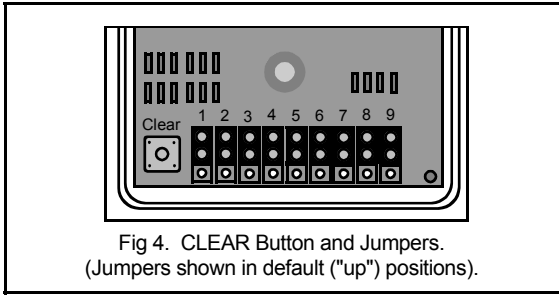

Fig 4. CLEAR Button and Jumpers.
1. Connect the battery; a chirp will sound ensuring that power is properly connected. **Important:** Press the small CLEAR button at the lower-left corner of the circuit board (see Figure 4 below).
2. Install the Housing Cover into the Baseplate as follows: Remove all keys from cylinder (thus ensuring the cylinder is in a 12:00 position). Holding the Housing Cover vertically with the inside facing toward you (the PC board and jumpers can be seen at bottom), *slide the switch to the right*. (**Note:** Each time the Housing Cover is removed, the switch **MUST** be moved to the right before mounting). Disconnect and reconnect the battery and press the "Clear" button (see Fig. 4). Hook the Housing Cover into the clip at the bottom of the Baseplate, then gently snap the top of the Housing cover into the top of the Baseplate. **DO NOT FORCE.** **Note:** If the switch is in the wrong position (not moved to the right), or if a key is accidentally left inside the cylinder, the Housing Cover is specifically designed NOT to lock into the Baseplate.